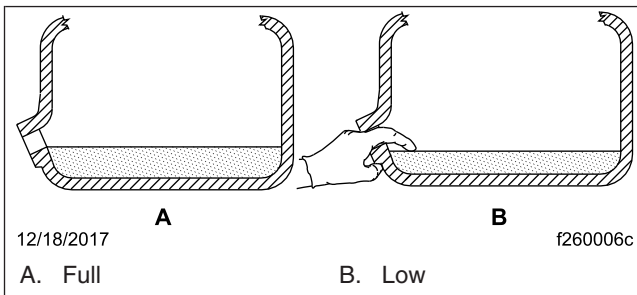

Fig. 2, Checking Transmission Fluid Level
5. Add fluid until it is level with the lower edge of the fill opening; see Fig. 2. See the Detroit Transmission Fluid Service Information brochure at <http://dtna.info/DT12FluidsManual>, for identifying the transmission type, estimated oil capacities, and applicable oil specifications.
2. Using your finger or a bent pipe cleaner, see if the fluid is level with the fill opening. See Fig. 2.
6. Add fluid until it is level with the lower edge of the fill opening. See Fig. 2. If the transmission has two fill openings, add fluid to the level of both openings. See Table 1 for approved transmission lubricants, and Table 2 for transmission lubricant capacities.